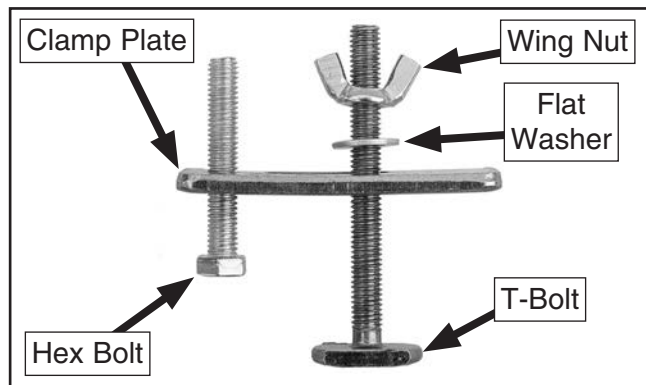

Figure 22. Hold-down clamp components.
2. Thread hex bolt into clamp plate, then insert T-bolt through clamp plate and thread flat washer and wing nut (see **Figure 22**).